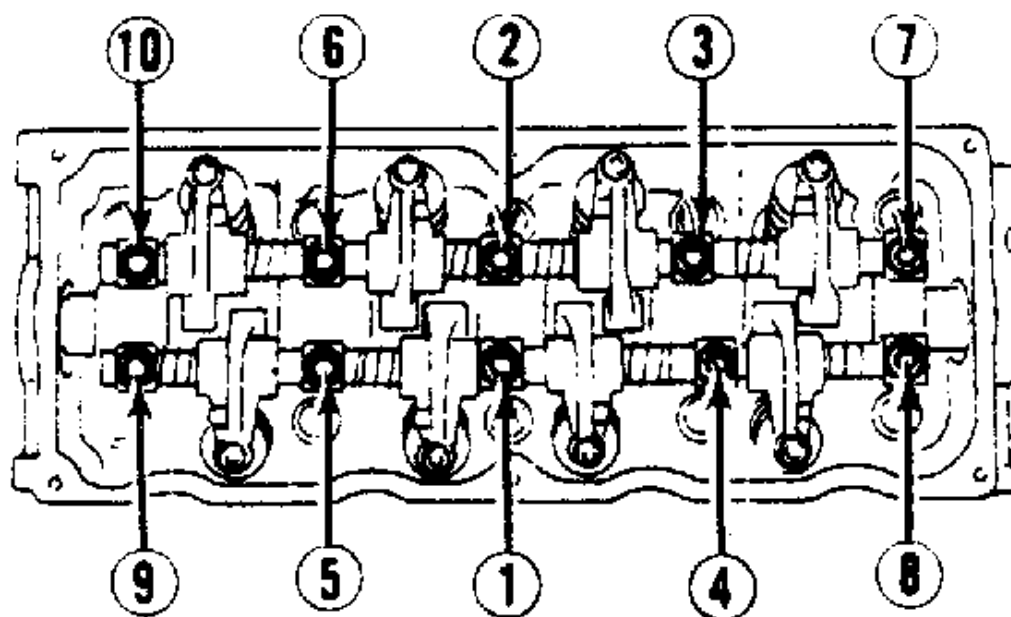

Fig. 5: Rocker Arm Shaft Tightening Sequence (1.3L)
2. While tightening rocker arm shaft, slide shaft springs away from retaining bolt to prevent pinching spring. Tighten rocker arm shaft bolts in sequence and to specification. See Fig. 5. See TORQUE SPECIFICATIONS table at end of article. To complete installation, reverse removal procedure. Tighten all bolts and nuts to specification.